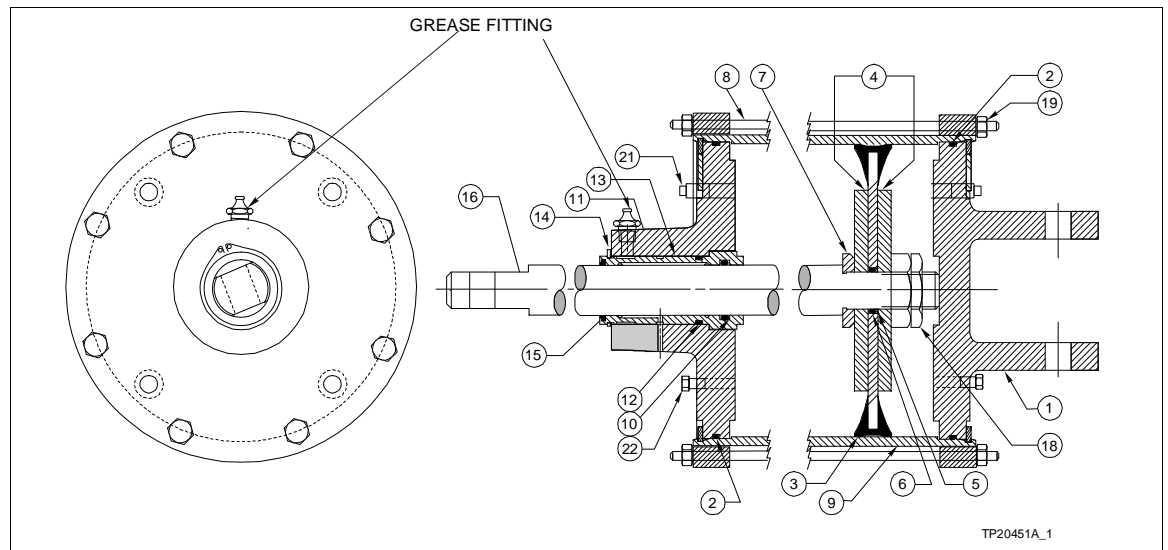

Figure 8-2. Cylinder Assembly for Type UP3 Actuators (Part Number 5328775_1)
NOTE: Refer to Tables 8-1 through 8-4 and Figure 8-2 through 8-5.
for UP3, items 2, 3, 6 in Fig. 8-2;
19. Lubricate the inside of the bushing (item 13 in figure 8-2) with TEXACO Multifak® EP2 lubricant. [Also refer to item 23]